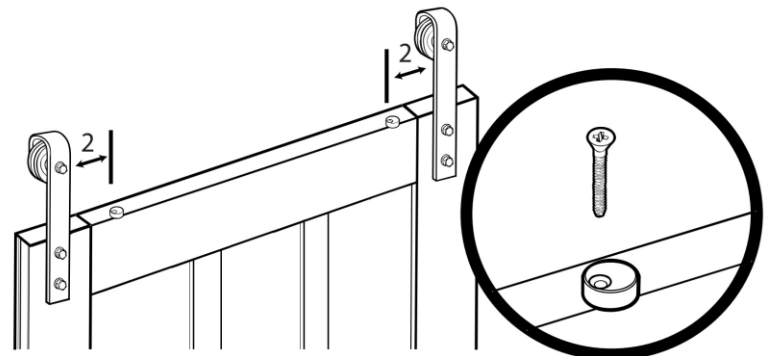

Figure 14
Once the Roller brackets have been secured and the finishing strips in place, it is important to install the Safety spacers (W). These spacers help to protect the door from being bumped off of the track. With the door laying flat in a safe and secure position, place one of the two spacers approximately 2" to the inside of one of the roller brackets. Place slightly off center towards the front of the door. Using a drill, secure the spacer with the screw provided. Repeat steps to install the second spacer inside the other roller bracket. See **Figure 14**